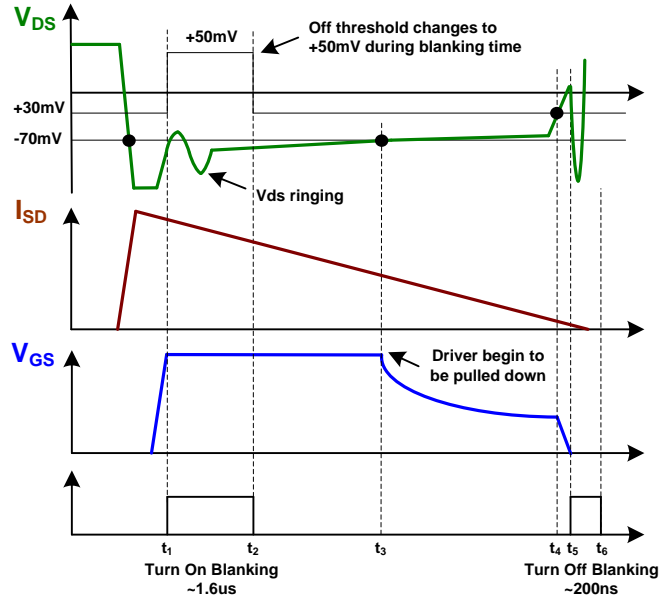

Figure 2: MPS SR Controller Operation Principles
When adaptors runs at CCM mode at start-up or full load, the current in the SR switch is designed to avoid falling to zero when the primary switch tries to turn on. Therefore, it is critical to turn off the SR very quickly to prevent a shoot-through from the primary to secondary side, which results in high spikes and potential damage. MPS's solution is to adjust the SR switch V_G to keep the MOSFET's V_{DS} constant. As the current drops during CCM, the driver's V_G also drops, so the MOSFET is running in linear mode (see Figure 2). Therefore, when the voltage finally reverses, the driver turns off very quickly at a low V_G to ensure safe CCM operation. This is a robust control method, as it is independent of the line input condition. Additionally, the body diode conduction time is minimized to ensure optimum efficiency. MPS's SR controllers are designed not only to support CCM, but DCM and CrM as well.
- Use a SR controller with a higher regulated voltage (70mV in Figure 2 using the MP6902). With a higher regulated V_{ds} , V_g can drop fairly low before turning off, resulting in a faster turn-off.